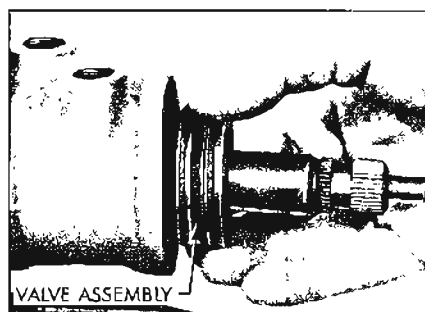
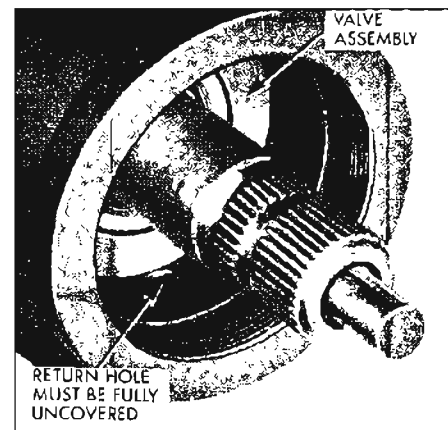

Figure 8-46—Inserting Valve Assembly in Housing
Figure 8-47—Valve Assembly Property Installed in Housing
1. Align the narrow pin slot on the valve body with the valve body drive pin on the worm. Insert the valve assembly into the gear housing by pressing against the valve body with the finger tips. Do not press on stub shaft or torsion bar. See Figure 8-46. The return hole in the gear housing
should be fully visible when valve is assembled properly. See Figure 8-47.
2. Insert the valve assembly and worm in gear housing as an integral unit. Do not press on stub shaft or torsion bar. See Figure 8-46. Return hole in housing should be fully visible when valve and worm are properly installed. See Figure 8-47.